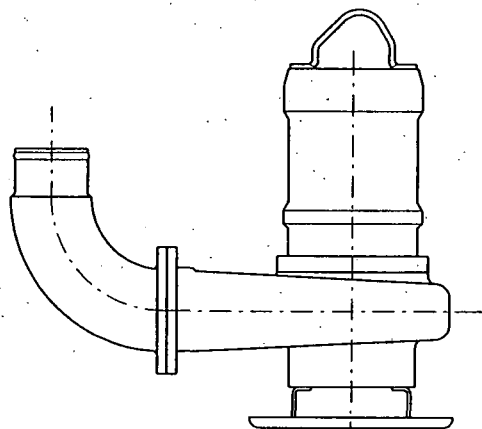

Figure 5.3 Pump versions 4 and 5.
- Version 4** Submerged with stand for portable use in wet wells or for temporary use. The pump is equipped with a hose coupling for connection to delivery hose. The pump motor cooling is by submergence in the liquid requiring the pump is submerged to at least half motor level when operating. Please refer to Figure 5.3 for details.
- Version 5** Similar to version 4 but with motor cooling independent of submergence in the pumped liquid by means of a cooling jacket encasing the motor stator housing. Pump must be submerged sufficiently for the required suction head only. Please refer to Figure 5.3 for details.